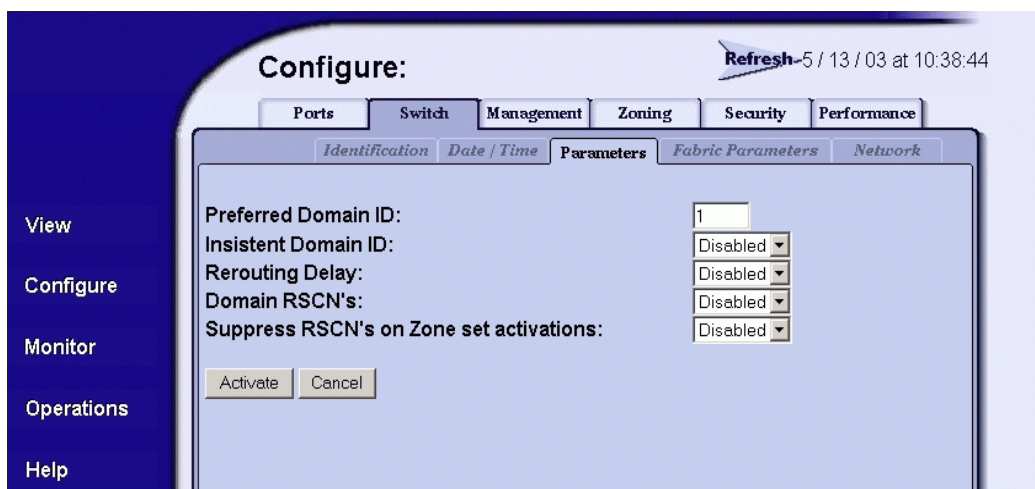

Figure 2-8 Configure Panel (Switch Page with Parameters Tab)
3. At the *Configure* panel, click the *Switch* tab, then click the *Parameters* tab. The *Switch* page displays with the *Parameters* tab selected (Figure 2-8).